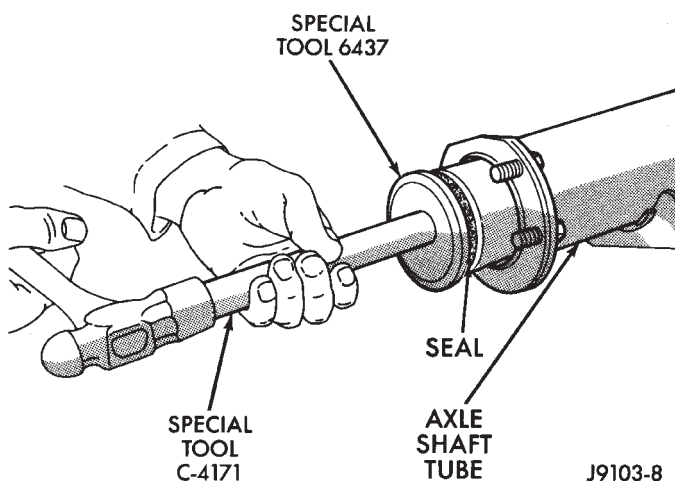

Fig. 15 Axle Shaft Seal Installation
- (1) Wipe the bore in the axle shaft tube clean.
- (2) Install axle shaft bearing with Installer 6436 and Handle C-4171. Ensure part number on the bearing must go against the Installer.
- (3) Install the new axle shaft seal (Fig. 15) with Installer 6437 and Handle C-4171.
- (4) Install the Axle Shaft. Refer to the installation procedure.